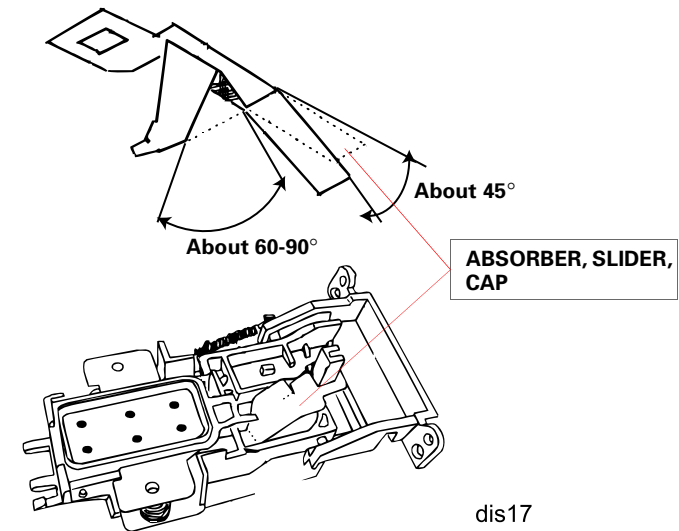

Figure 4-15. Setting the ABSORBER, SLIDER, CAP
1. When assembling the Cap Assembly to the Ink System Assembly, make sure ABSORBER, SLIDER, CAP is assembled in the cap assembly. ABSORBER, SLIDER, CAP should be set as shown in Figure 4-15 in advance.